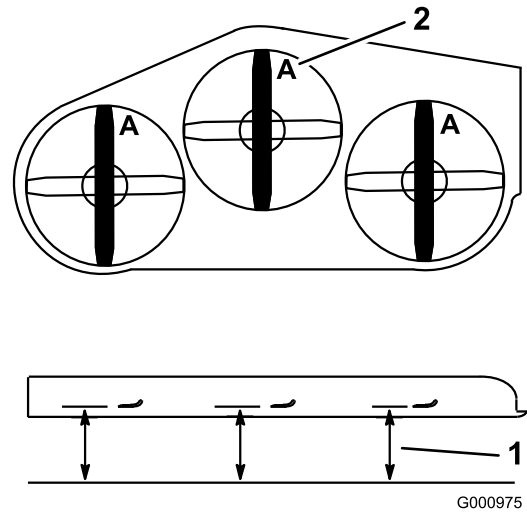
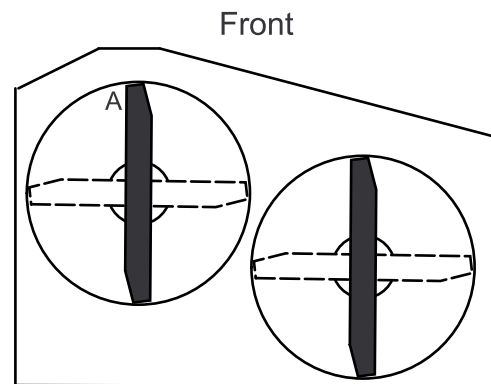

Figure 70
Figure 71
3. With the machine on level surface, position one blade front-to-rear. Measure at A and from level surface to the cutting edge of the blade tips (Figure 70). For 36 inch mower decks use Figure 71.